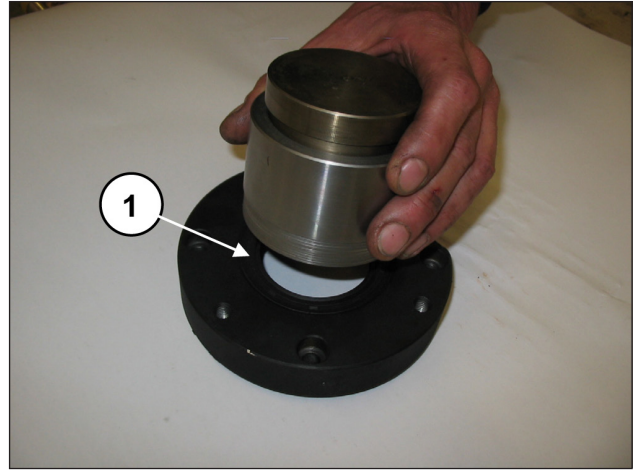
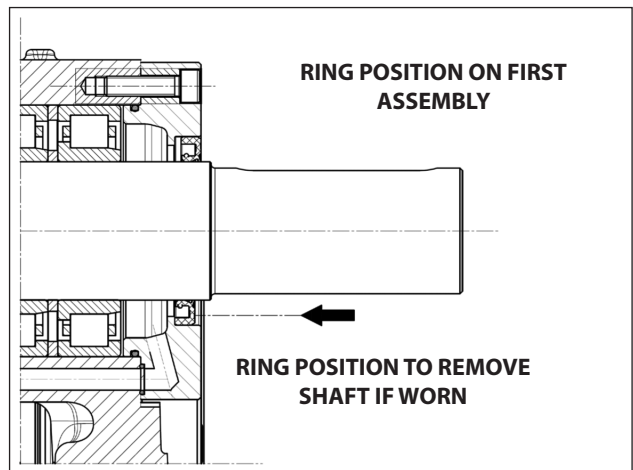

Fig. 64
Fig. 65
Insert the radial seal ring into the PTO bearing cover using the tool code 27539500 (pos. ①, Fig. 64). Before proceeding with the assembly of the radial seal ring, verify the condition of the seal lip. If it is necessary to replace it, position the new ring as shown in Fig. 65.
If the PTO shaft shows diameter wear corresponding to the seal lip, then to avoid grinding you can position the ring as a second step as shown in Fig. 65.